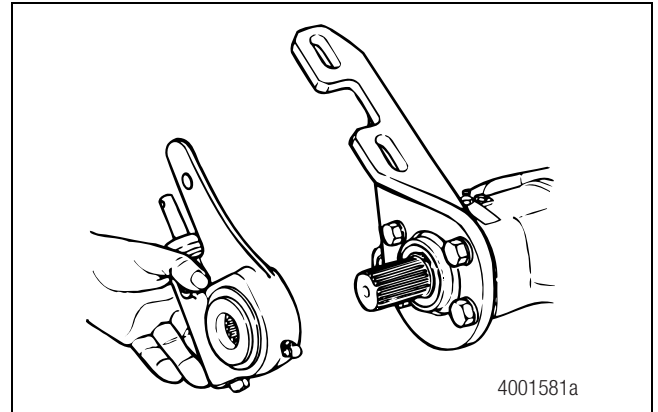

Figure 6.4
10. Remove the slack adjuster from the camshaft. Figure 6.4.